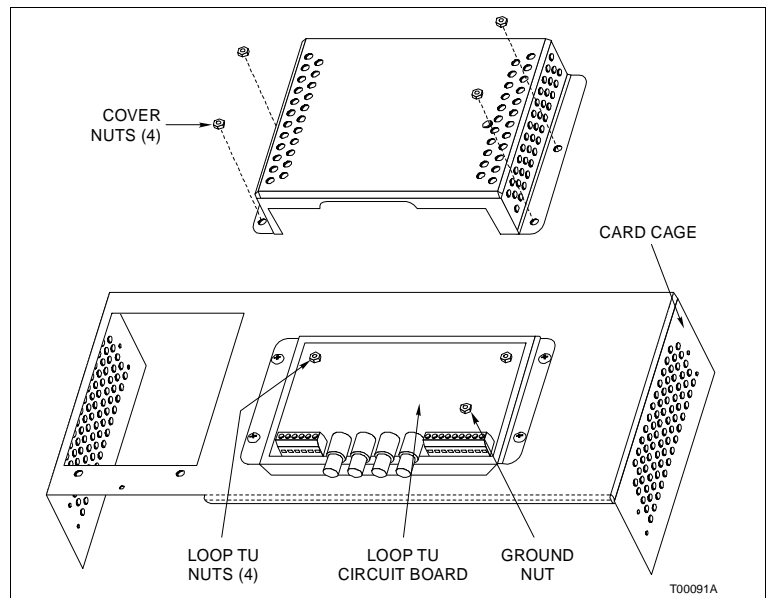

Figure PR14-1. Loop TU Circuit Board Replacement
2. Use the M5 nut driver to remove the four cover nuts (Fig. PR14-1).